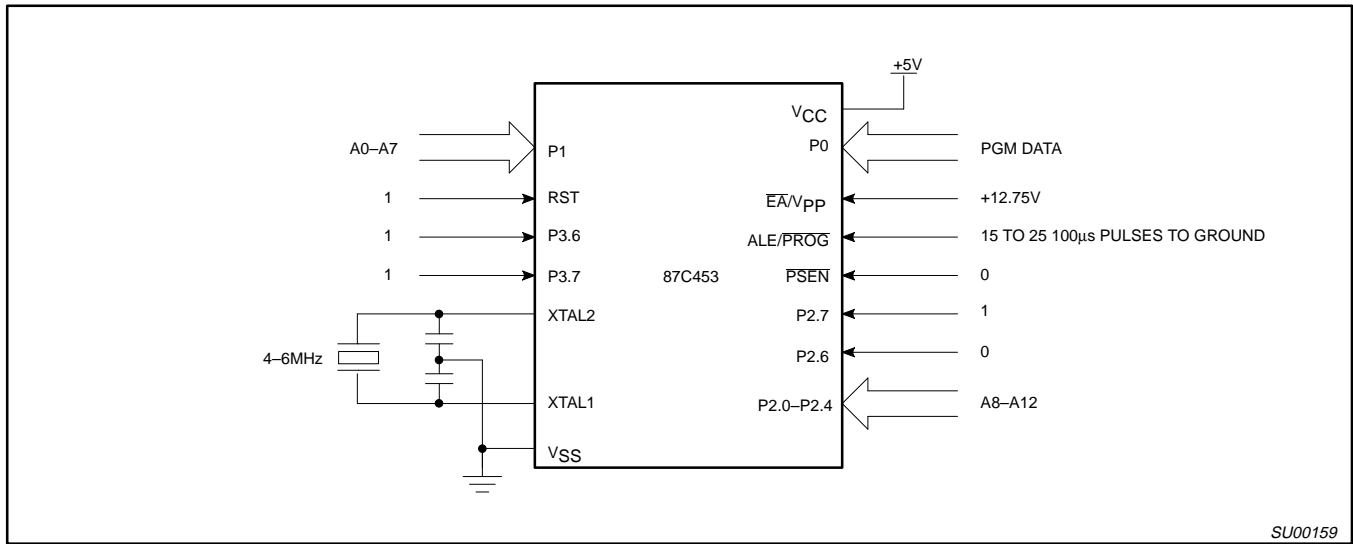
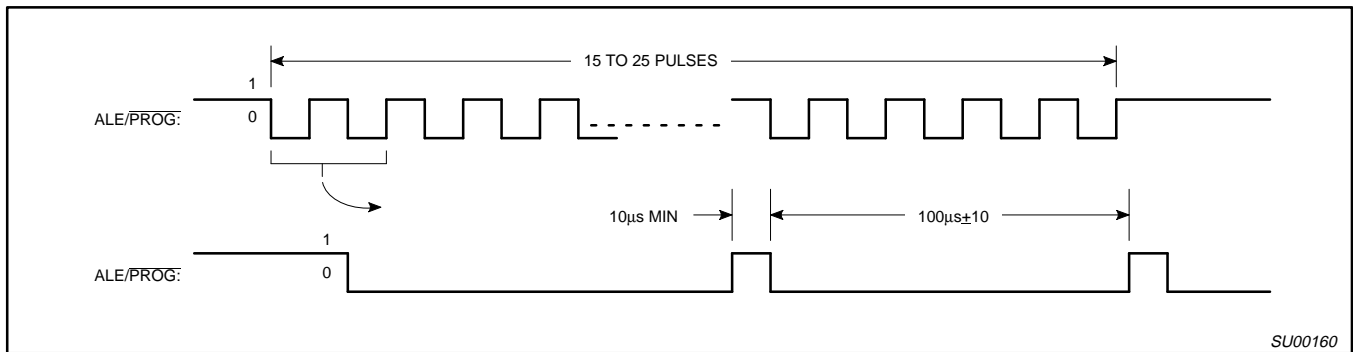
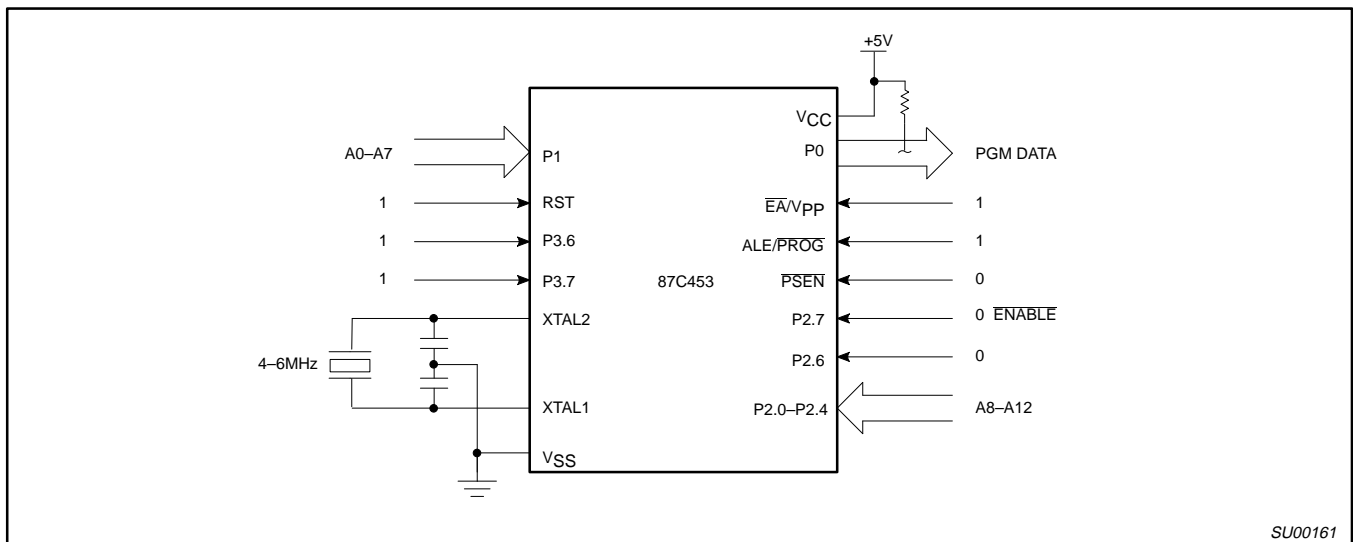

Figure 25. Programming Configuration
Figure 26. PROG Waveform
Figure 27. Program Verification
Table 4 shows the logic levels for reading the signature byte, and for programming the program memory, the encryption table, and the lock bits. The circuit configuration and waveforms for quick-pulse programming are shown in Figures 25 and 26. Figure 27 shows the circuit configuration for normal program memory verification.
The setup for microcontroller quick-pulse programming is shown in Figure 26. Note that the 87C453 is running with a 4 to 6MHz oscillator. The reason the oscillator needs to be running is that the device is executing internal address and program data transfers.
The address of the EPROM location to be programmed is applied to ports 1 and 2, as shown in Figure 25. The code byte to be programmed into that location is applied to port 0. RST, \overline{PSEN} and pins of ports 2 and 3 specified in Table 4 are held at the 'Program Code Data' levels indicated in Table 4. The ALE/PROG is pulsed low 15 to 25 times, as shown in Figure 26.
If lock bit 2 has not been programmed, the on-chip program memory can be read out for program verification. The address of the program memory locations to be read is applied to ports 1 and 2 as shown in Figure 27. The other pins are held at the 'Verify Code Data' levels indicated in Table 4. The contents of the address location will be emitted on port 0. External pull-ups are required on port 0 for this operation.
* FOR PROGRAMMING VERIFICATION SEE FIGURE 25.
FOR VERIFICATION CONDITIONS SEE FIGURE 27.